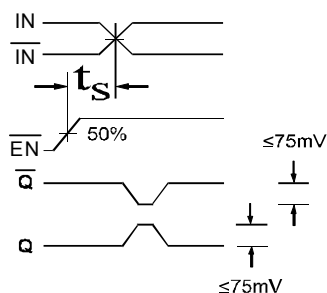

Figure 1. Setup Time
5. The setup time is the minimum time that EN must be asserted prior to the next transition of IN/ \bar{IN} to prevent an output response greater than $\pm 75mV$ to that IN/ \bar{IN} transition (see Figure 1).